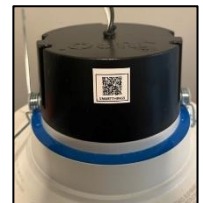

Figure 7
- i. Use your smart device’s camera to scan SmartThings QR code on side of device (Figure 7)